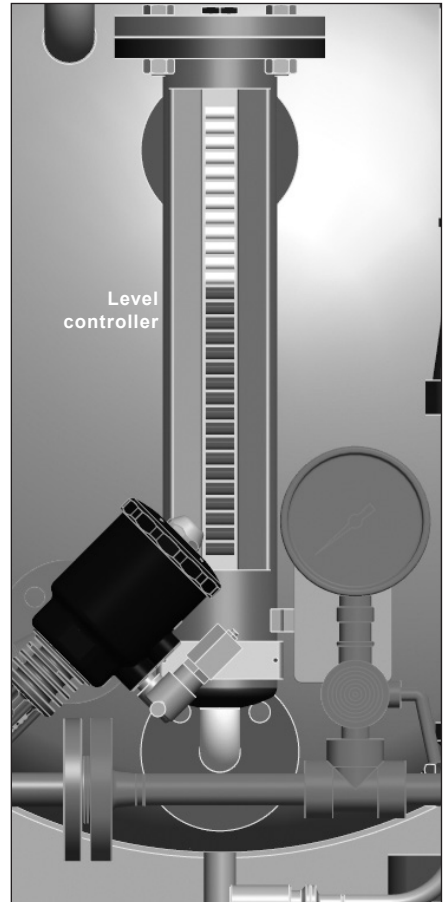

Fig. 22
5.4.10 Level controller - Figure 22